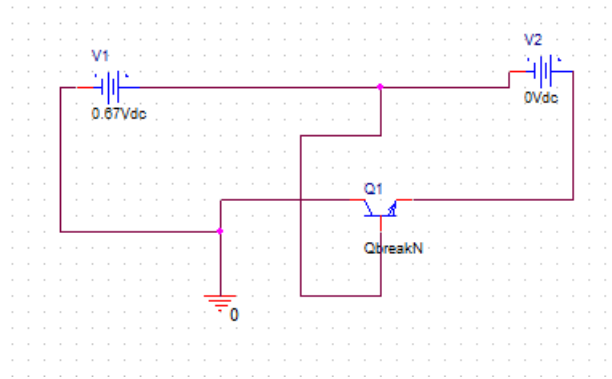

Figure 7: Reverse Current Gain Circuit Set Up
17. Repeat steps 12 - 16 with the BJT in reverse current gain set up. To do this, simply rotate the transistor 180 degrees by selecting it and pressing 'R' on your keyboard twice. Reconnect the terminals. The base should be connected to the same node, and the emitter and collector should now be switched. See Figure 7.